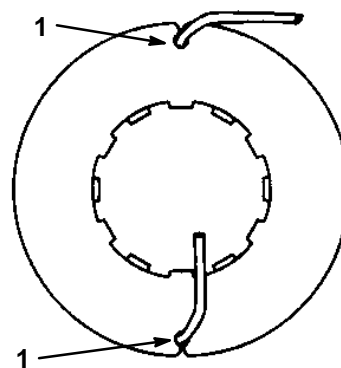

Figure 20
7. Snap the two (2) ends in the grooves as indicated, leaving 3-4 inches of line to be placed through eyelets (Figs. 20).